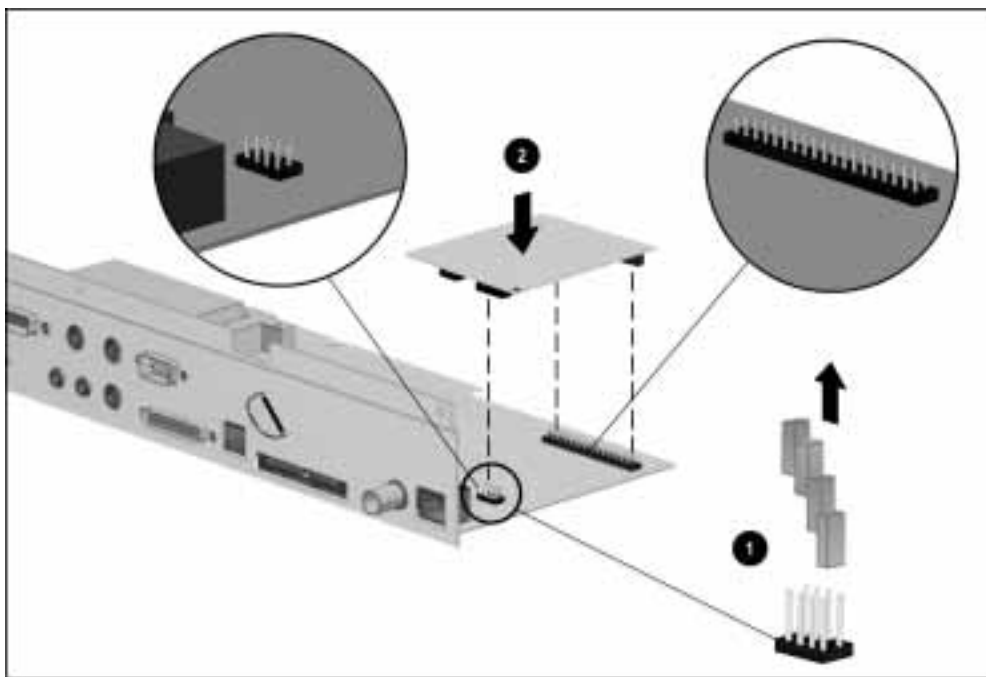

Figure 5-32. *Installing the 100BaseTX Ethernet Module*
4. Remove the four jumpers from the I/O assembly ❶ (Figure 5-32).
5. Connect the 100BaseTX Ethernet module to the connectors on the right side of the I/O assembly ❷.